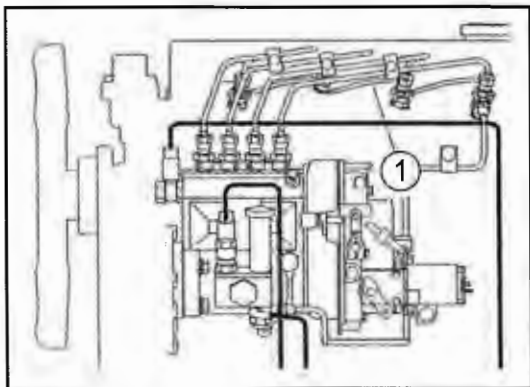

Fig. 43-1 - Fuel Injectors
- To remove the injectors from the engine, disconnect the lines and remove the injectors (1). (See Fig. 43-1).